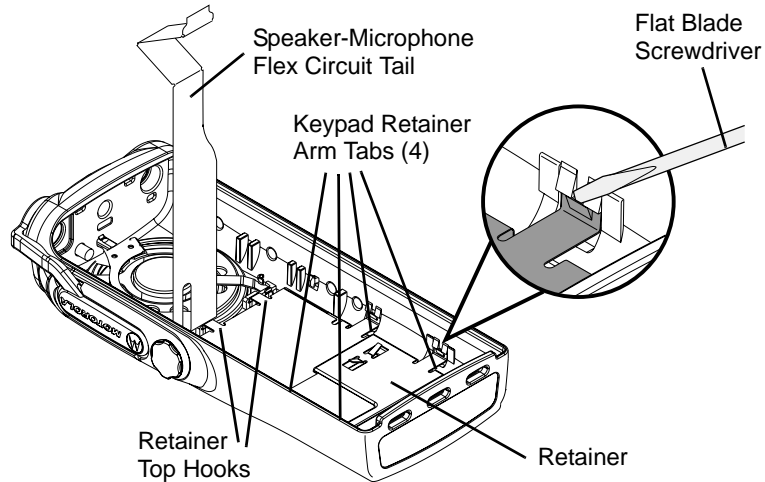

Figure 3-6: Remove Retainer
1. If the disassembly of the keypad or the keypad printed circuit board, is required, lift the microphone flex circuit up, and carefully remove the microphone and its boot from the front cover pocket. (See Figure 3-6 on page 3-7).